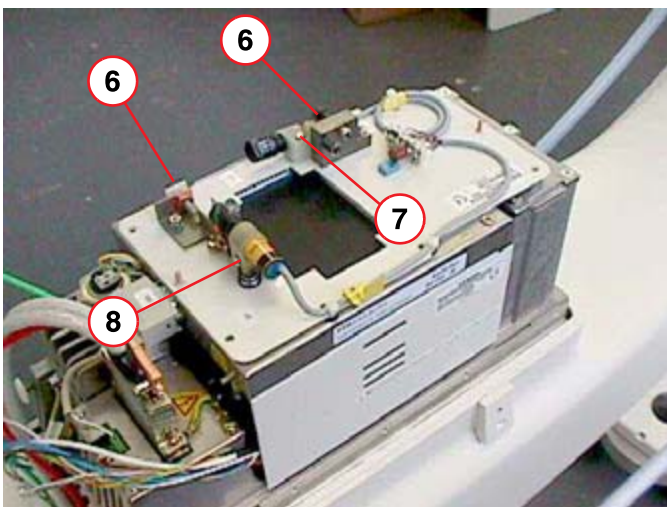

Fig. 5: Adjustment in the case of deviation
- Use the adjusters (6/Fig. 5 / p. 11) to align the laser light fan beams with the lines of the I.I. attachment. The laser light fan beams must now cross exactly at the hole of the pointer.
- Loosen the screws for laser diode V1 (7/Fig. 5 / p. 11) or the screw for laser diode V2 (8/Fig. 5 / p. 11).
- Retighten the screw (7/Fig. 5 / p. 11) or (8/Fig. 5 / p. 11).
- Secure the screws (7/Fig. 5 / p. 11) and (8/Fig. 5 / p. 11) with Loctite.